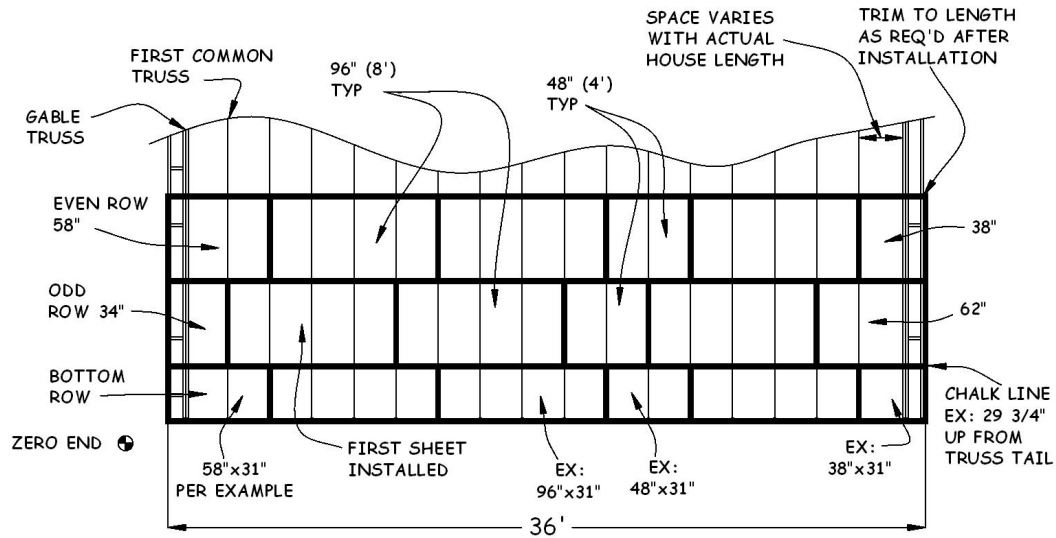
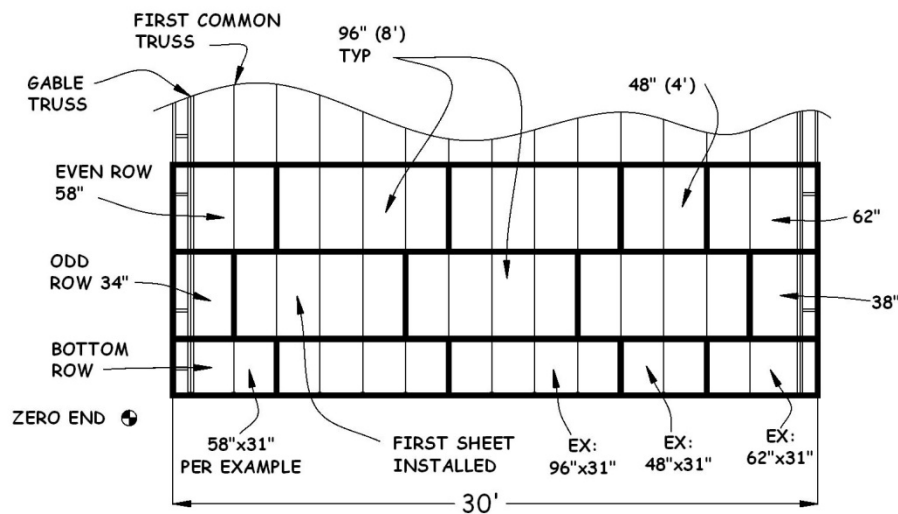

Figure 7-1. OSB Layout for 36' Roof.
Figure 7-2. OSB Layout for 30' Roof.
1. Refer to Figure 7-1 and Figure 7-2, below, which show examples of the roof sheathing layout for a 36' and 30' long roof, respectively. Note that each **odd** row has a **34" piece** at the zero end, and each **even** row has a **58" piece** on the zero end. Also, note that the **bottom row** is not full-width. The size of these **bottom row** pieces will be determined in Section 7.4.2.
4. Place two 34" and two 58" pieces on each eave side of the house at the zero end, and two each of the 38" and 62" pieces on each eave side of the non-zero end. There are typically 4 rows of sheeting on each side of the house, or 8 rows total. As shown in Figure 7-1, Figure 7-2, and Table 7-1, the 62" and 38" pieces are used on the non-zero end, but not necessarily in the same row as its corresponding cutoff.
5. Depending on the length of the house, a 4' piece may also be needed in the middle of the row to reduce scrap and to maintain the stagger of the joints between sheets. In the 36' example in Figure 7-1, a 4' piece is required in each row. Figure 7-2 shows a **4' piece in even rows only**. Referring to "**Total # of 4s**" in Table 7-1, determine the number of 4' pieces required. Cut full-width sheets in half to obtain the required number, label with the size, and place half of them on each eave side of the house near the middle.